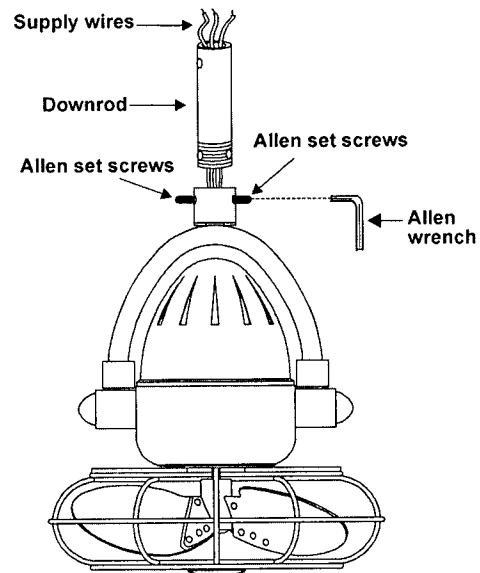

Figure 8
6. Loosen the two set screws from the top coupling of the motor assembly. (Fig. 8)
7. Carefully feed the fan wires up through the down rod. Thread the down rod into the coupling then tighten the set screws using the Allen wrench. (Fig. 8) Carefully reinstall hanger ball onto rod being sure that cross pin is in correct position, the set screw on hanger ball is tight and wires are not twisted.